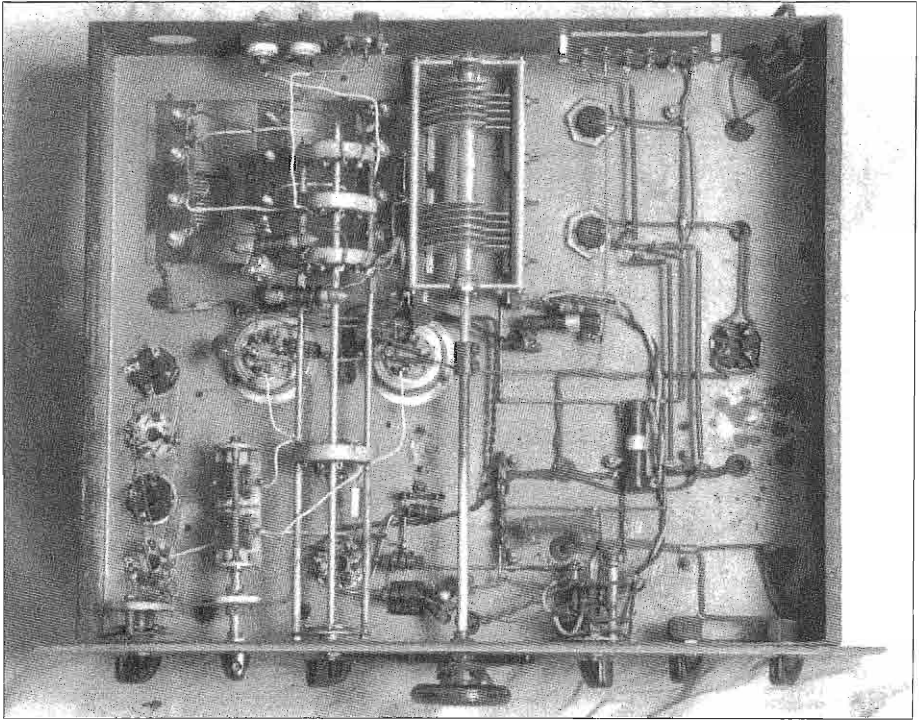
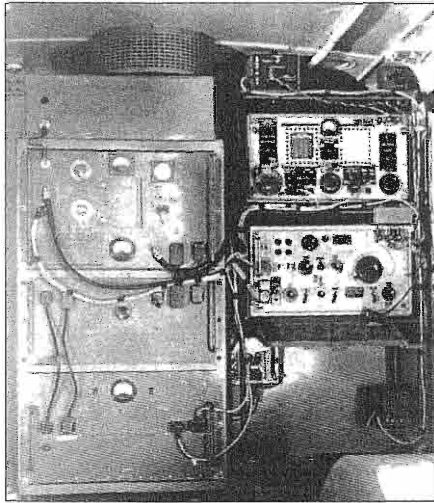

Figure 2: Underneath the 100-MB chassis are found more neatly placed parts.
Figure 1: The prototype Wireless Set No. 12, High Power version, in a mobile installation.
**Figure 2: Wireless Set No. 33, ground station. A ground station is carried in wooden cases. Supports drawn out from the cases with the lid in position form a table for use by the operator. Note aerial coupling equipment "G" on the ground at the right. [Figures 1 and 2 from "Wireless for the Warrior, Volume 1]**